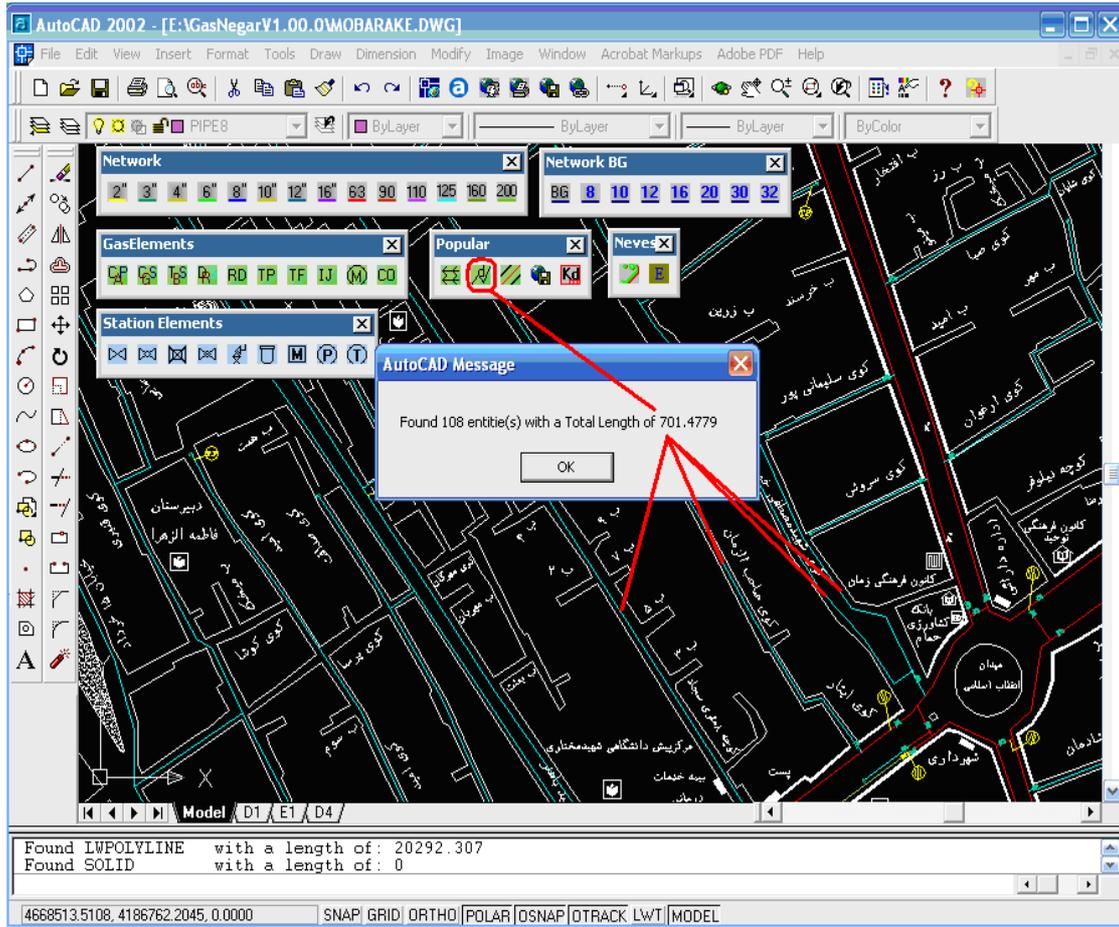

Figure 17
”**Calculate Length**” icon, reports the line lengths by choosing a pipe line or a region. This command is for referring for controls gas line to contractors or repair man of Gas Company. With this command operator take two kind of report. A length report is appear in a dialog by selecting a gas line or some gas line as figure 17.
- Figure 17 : Reporting distance by dialog box.